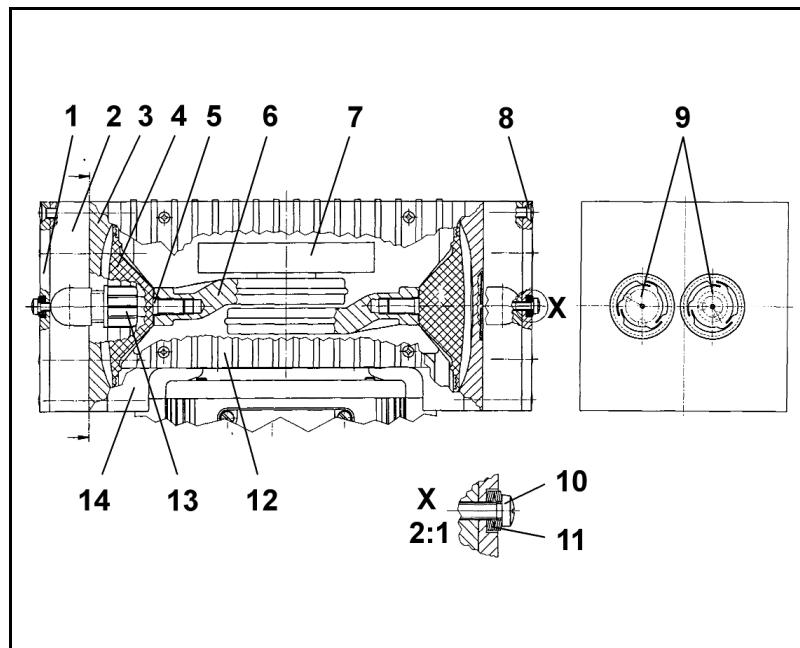

Fig. 25: Cross chapter of the pump (symbolic) (for vacuum system SBC 860 and SBC 860.40)
3. On the pneumatic head connections, loosen one of the union nuts (fig. 25/13) by hand. Then slightly loosen the angle-fitting in the pump head by turning it anticlockwise, so that the connecting tube can be pulled out.
4. Loosen the screws of the accessible side panel (fig. 25/12) and remove cover.
2. At one pump head: Make a mark on the top plate (fig. 25/1), head plate (2), intermediate plate (3), and housing (14) with a felt-tip pen. This is to ensure that the parts will be reassembled correctly at a later stage.
3. Undo the eight screws (8) and lift the pump head off the housing (14).
i The concave side of the first three disk springs must point away from the screw head, the next three towards it (see fig. 25, detail X).